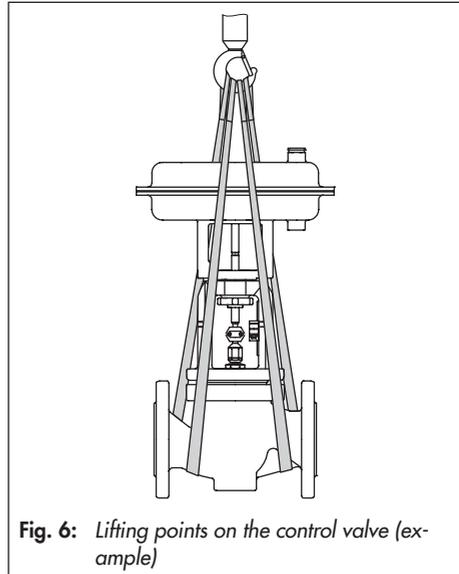

Fig. 6: Lifting points on the control valve (example)
- Make sure that the slings attached to the valve body bear the entire load (see Fig. 6).
We recommend using a hook with safety latch (see Fig. 6). The safety latch prevents the slings from slipping during lifting and transporting.